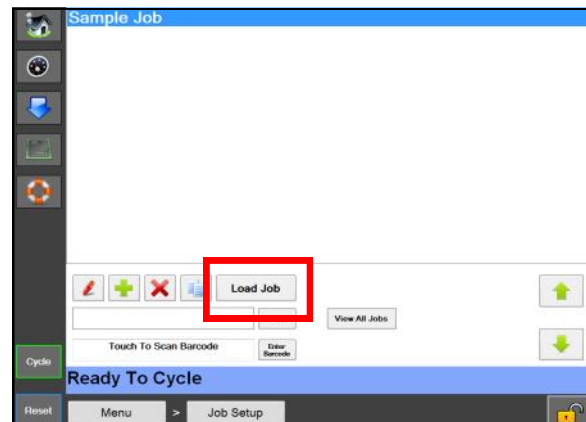

Figure 78C. Load Job Button.
5. Press the Load Job Button. This will send the highlighted job to the PLC and send the label, if applicable, to the printer. **Figure 78C.**